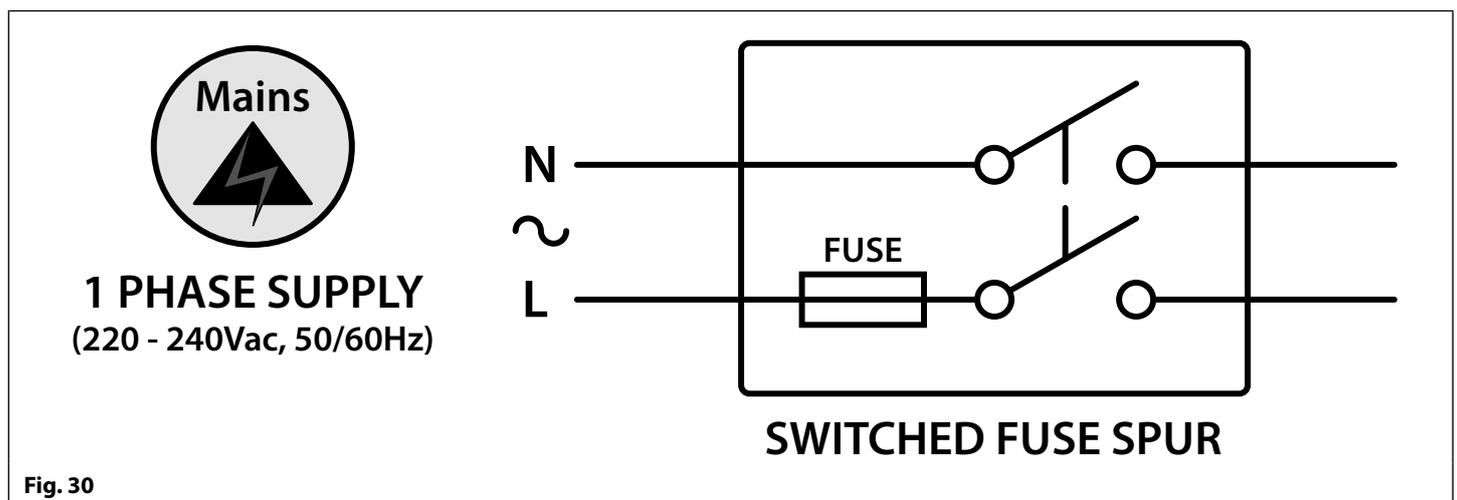

Fig. 30
- Connecting the system to the mains through an all-pole circuit breaker (refer to **Fig.30**) which shall have contact separation of at least 3mm in each pole and shall disconnect all poles simultaneously.